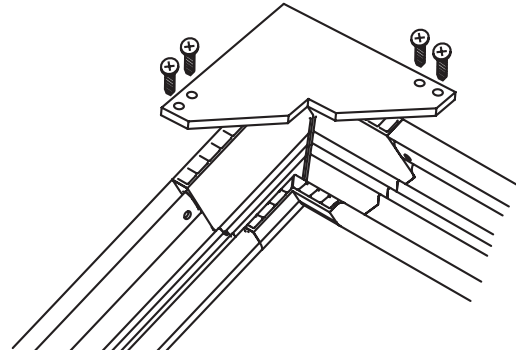

Figure 9
- ③ Insert opposite side of surface to notch #1 of frame extrusion.
- ④ Repeat steps 2-3 with remaining edges of surface.
- ⑤ Ensure surface retention extrusions are centered lengthwise in tension slots on all 4 edges of surface.
- ⑥ If additional tension is desired or required over time, adjust surface one edge at a time to tension notch #2.
- ① If screen is being flown (suspended), raised and lowered by a TorkStar, or if screen is 12' (viewing area) or larger in overall height or width, install Corner reinforcement Gussets to all four corners (see Fig. 9)